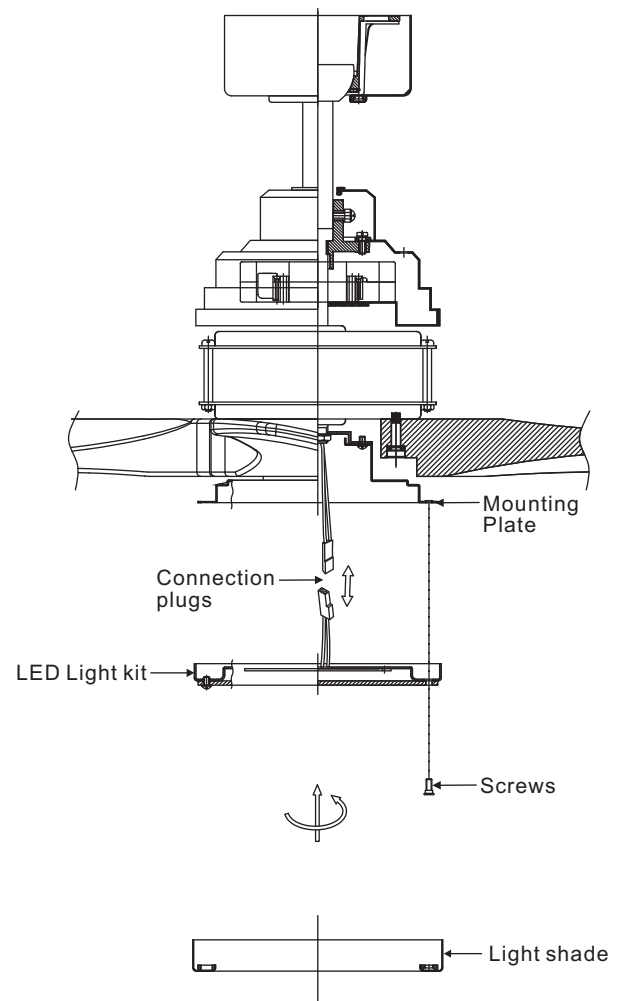

Figure 16
Step 1. Remove the 1 of 3 screws from the posts of the mounting plate and keep it for future use. Loosen the other 2 screws. (Do not remove) (Fig. 16)
Step 3. Place the key holes in the LED light kit over the two screws previously loosened from the mounting plate. Turn the LED light kit until the LED light kit locks in place at the narrow section of the key holes. (Fig. 16)
Step 4. Securely tighten the two light kit mounting screws previously loosened and the one previously removed. (Fig. 16)
Step 5. Raise light shade up against the LED light kit, and secure it to fan by turning light shade clockwise until snug. DO NOT OVERTIGHTEN. (Fig. 16)